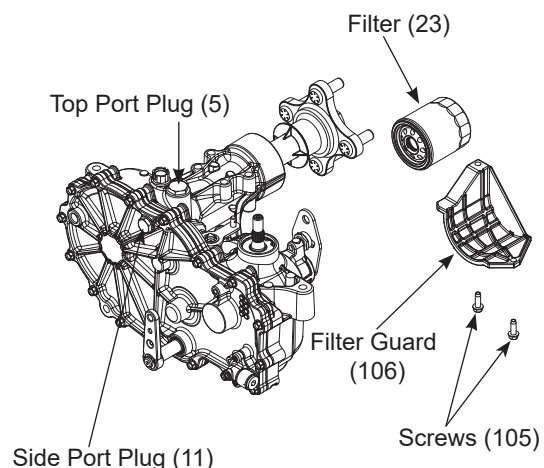

Figure 6, Filter And Filter Guard
1. Remove the 1/4" filter guard screws (105) and filter guard (106) as shown in figure 6. Clean any loose debris from around the perimeter of the filter. See figures 5 and 6.
8. Remove the side port plug (item 11 (figure 6)) from the left side and right side transaxles prior to filling with oil. This will allow the transaxles to vent during oil fill.
Note: For units that do not have an external expansion tank remove the fill port plug on the top of the housing (item 5 in figure 6).
10. Fill with 20W50 motor oil until oil just appears at the bottom of each transaxle's side port (11) (approximately 2 qts. per transaxle, 4 qts. total). Install the side port plug (11) into each transaxle as the oil level reaches this port. See Figure 6.
11. Install and torque the side port plugs (11) to 120 in. lbs. (20.3 Nm).
Note: For units that do not have an external expansion tank replace the top port plug (5) on the top of the housing (figure 6), torque to 120 in. lbs. and proceed to the purge procedure on page 12.